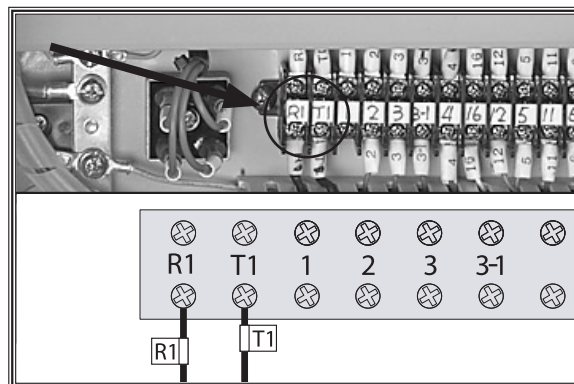

Figure 20. Laser electrical connection.
8. Connect the R1 and T1 laser power wires to their respective R1 and T1 terminals on the electrical panel (see **Figure 20**).